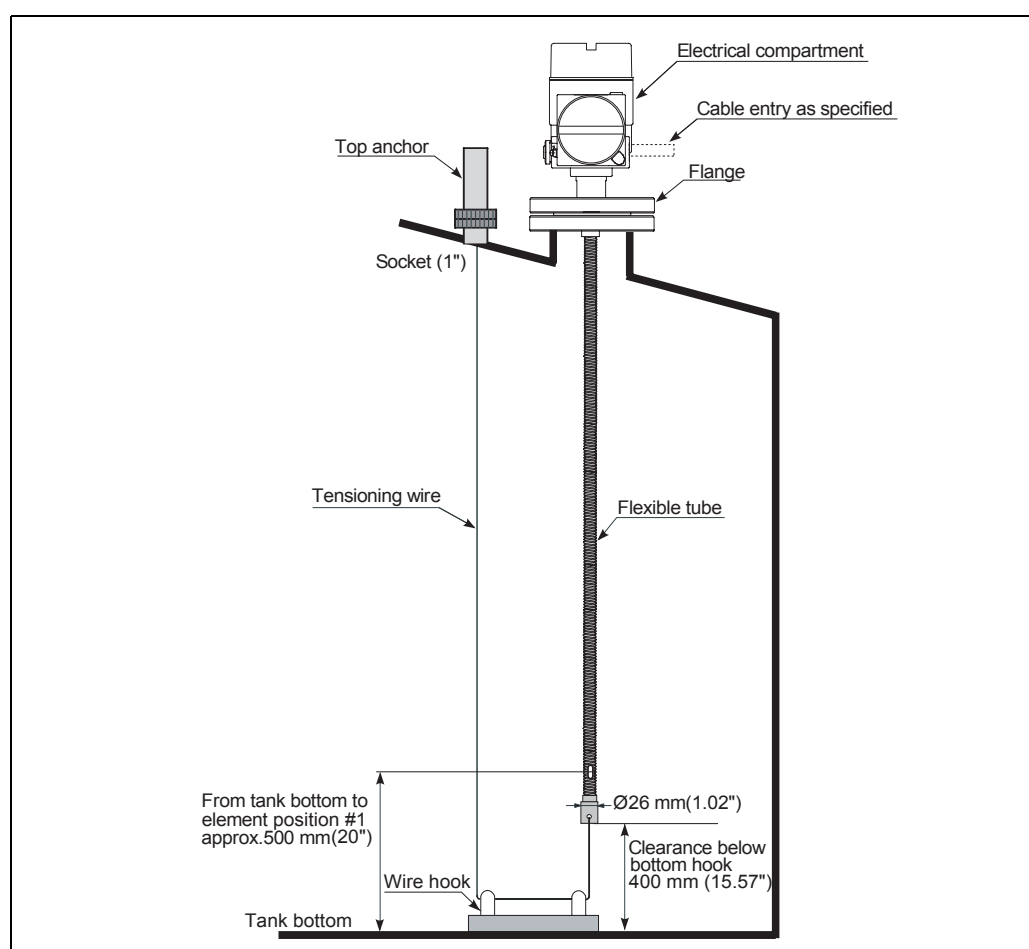

Fig. 7: Top anchor application
- Wrap the tensioning wire twice around the hole on the bottom hook, tighten it and wrap the provided wire around it (see fig. 7).